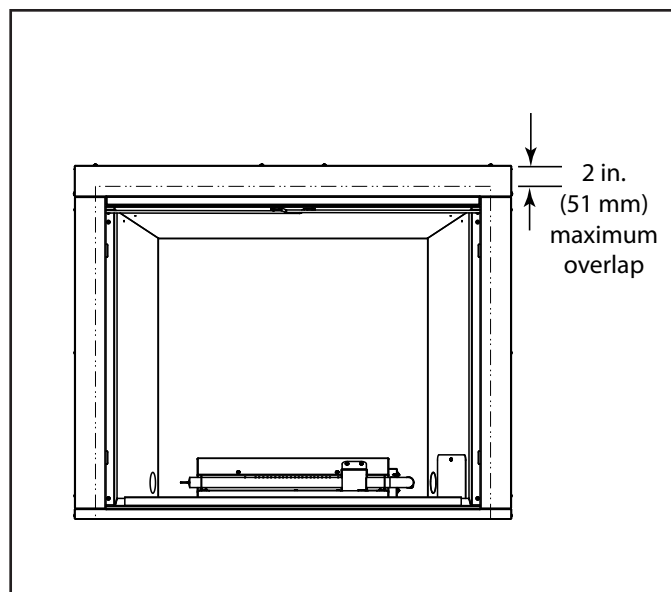

Figure 3.5 Membrane Overlap
A moisture membrane material may overlap and be taped onto the face of the appliance a maximum of 2 inches on the sides and top. See Figure 3.5.
Acceptable method for application of moisture membrane material shown. See Figures 3.5, 3.6 and 3.7.
- See Section 3 and Figures 3.2 and 3.3 for more information regarding wall and enclosure construction required to prevent moisture penetration into the structure. The appliance will shed moderate amounts of water but is not waterproof. See Figures 3.5, 3.6, and 3.7.